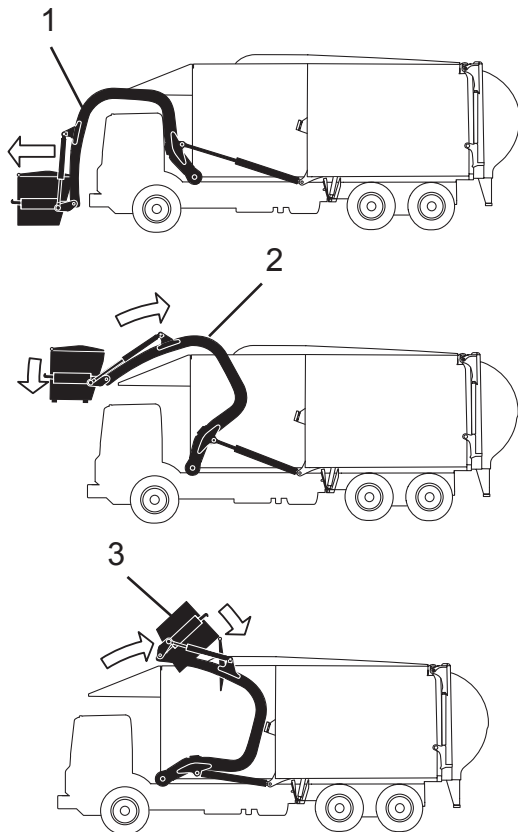

Figure 30
4. The arm assembly will begin to raise with the container (Figure 30, Item 1).
5. As the arm assembly raises above the body (cab), the fork assembly will automatically lower to a level position (Figure 30, Item 2).
6. The arm assembly will start to raise until the fork assembly is fully raised and the container is in the DUMP position (Figure 30, Item 3).